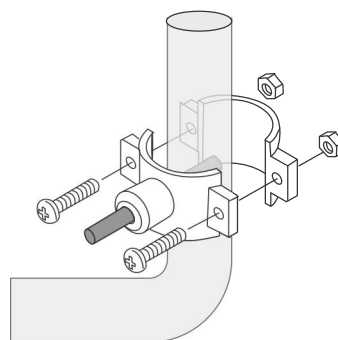

Figure 9
- c. Slip the front plate over one end of the tubing (without a mark) and insert the tubing into the drilled hole for about 0.6" (**Figure 9**).